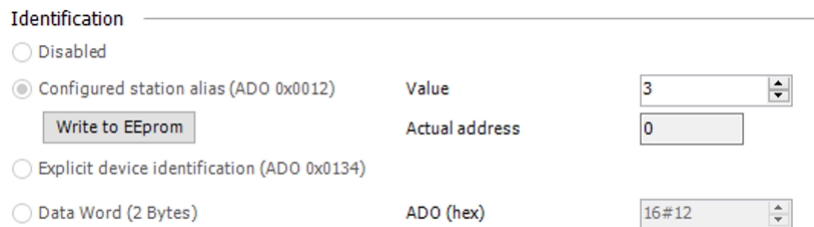

Figure 4.3: Writing a new address to EEPROM memory.
- Enter the desired address into the **Value** field and click on **Write to EEPROM**, as shown in Figure 4.3.